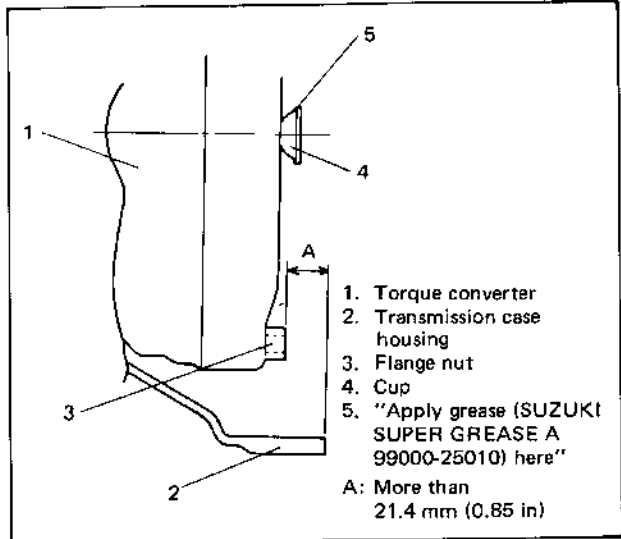

Fig. 7B-96 Installing Torque Converter
- a) Apply grease around the cup at center of torque converter (Fig. 7B-96).
- b) Measure the distance A shown in Fig. 7B-96. The distance should be more than 21.4 mm (0.85 in). If it is less than 21.4 mm (0.85 in), it means that the torque converter is improperly installed. Therefore, in such a case, remove the torque converter, and then, reinstall it for proper installation.